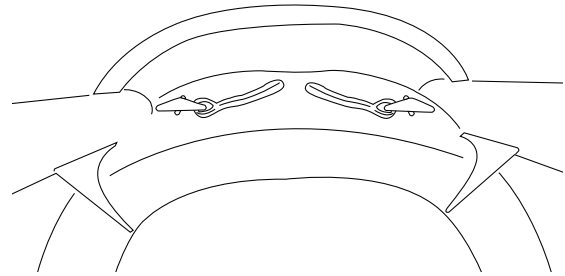

Fig. 4
4. Flip seat over and make sure the strap buckle lays flat and pulls against the back of the chair. Repeat steps for each (3) strap lock. Make sure all (3) strap locks and laying flat against chair bottom. See figure 4 and 4a for reference. For removal of child harness pull on end strap of strap lock and glide entire strap lock through the slots on chair. Repeat (3X) for complete removal of harness.